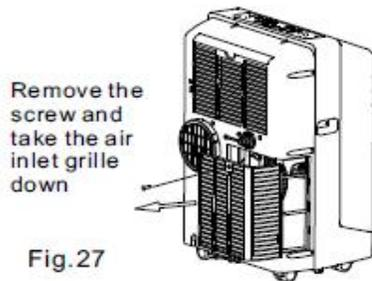

Fig.27
- Remove the lower filter by loosening the screw and taking down the air inlet grille. (Fig.27 & 28)